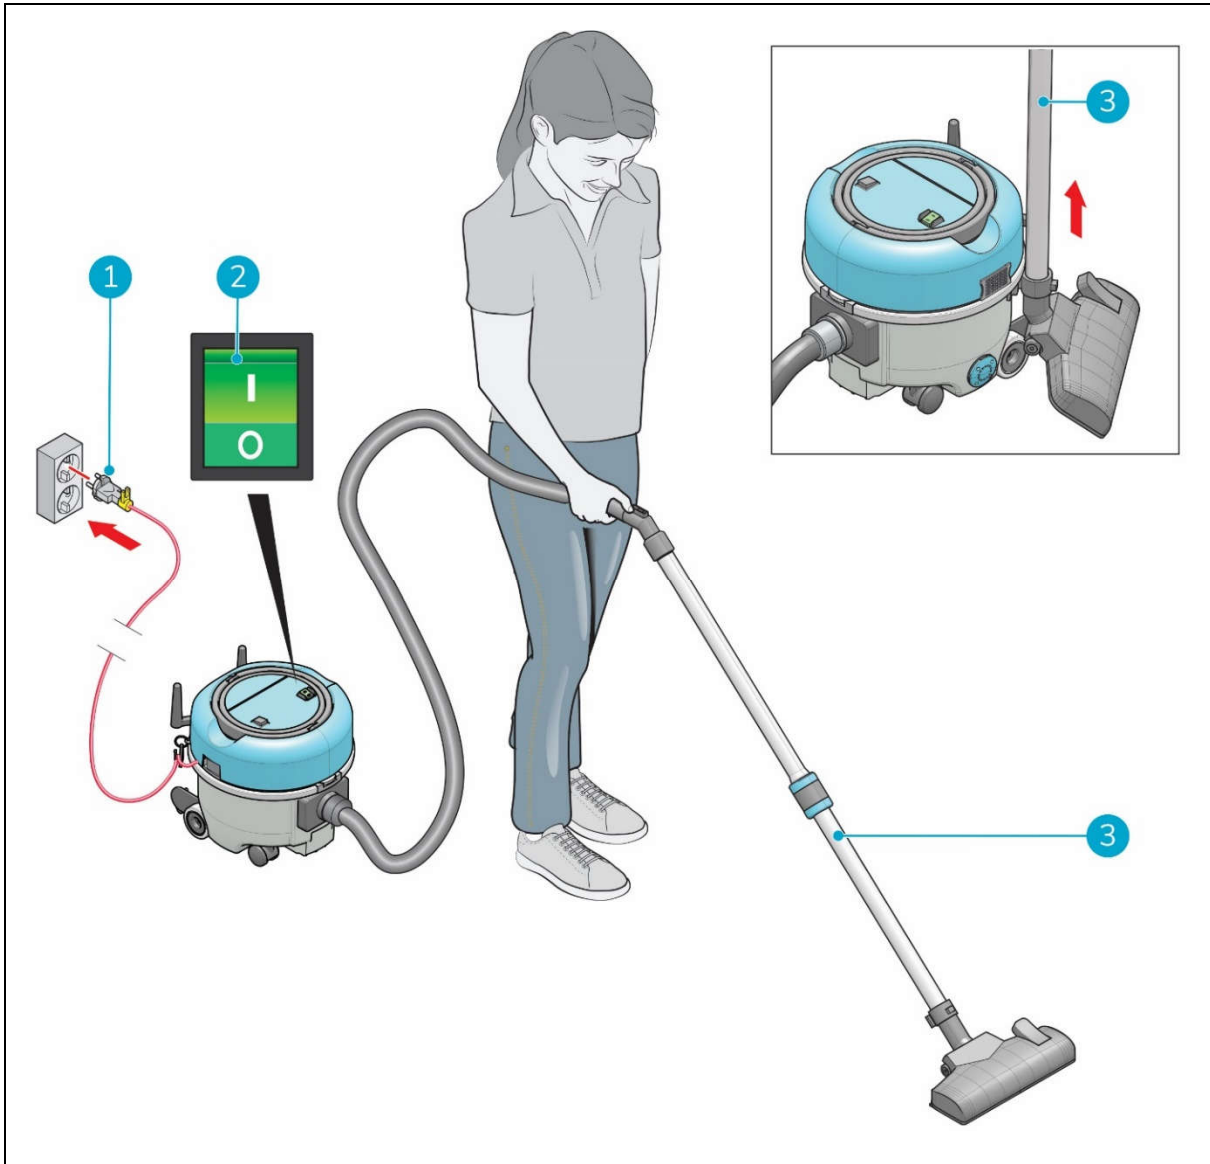

Figure 18
1. Put the main power cable into the wall socket (fig 18, pos 1), the green light in the ON /OFF switch (fig 18, pos 2), on the head of the can, should go on.
2. Turn on the i-vac 6® by hand using the ON /OFF switch (fig 18, pos 2).
3. Take the wand from the holder (fig 18, pos 3).